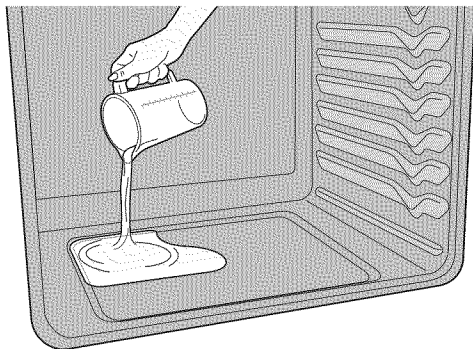

Figure 36: Add 8 ounces of distilled water
3. Pour 8 oz (235 ml) distilled or filtered water onto the oven bottom (See Figure 36). Close the oven door.